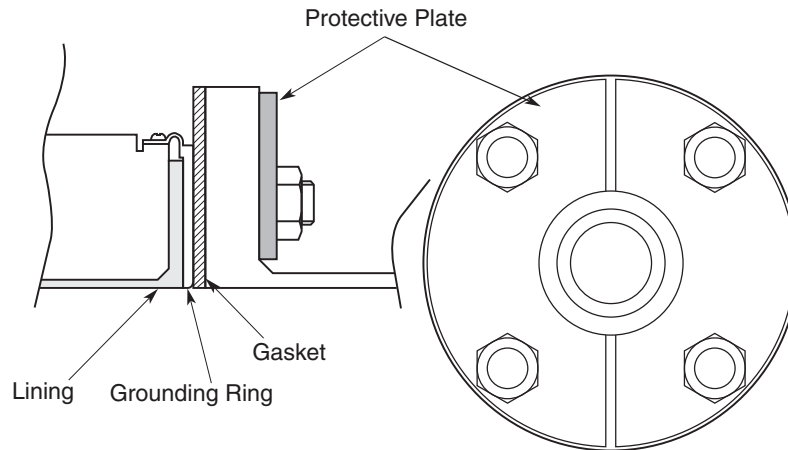

Figure 18. Installation on PVC Pipe with 316 ss Grounding Ring (with Protective Plate)
- Use this method to install the flowtube using a protective plate to prevent the PVC pipe from being deformed or damaged when the bolts are tightened with the specified torque. Install the protective plate between the outer side of the PVC flange and the flowtube, as shown in Figure 18. The protective plate protects the PVC pipe from deformation or damage when secured at the specified torque. The torque level is unrelated to the pipe or grounding ring material. See Table 2 for the appropriate torque.